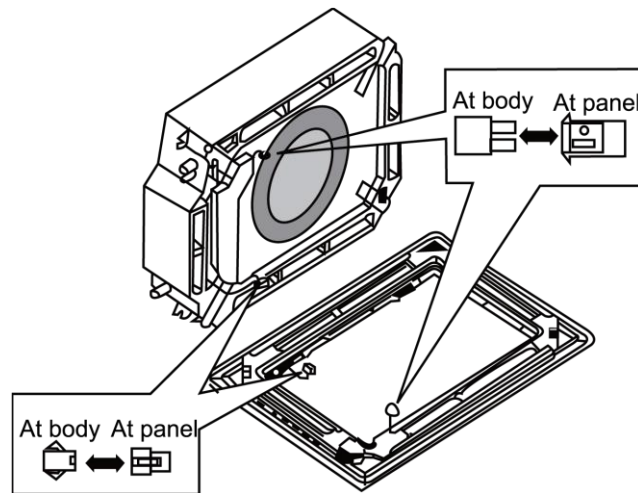

Fig. 4.4.3
- (3) Connect the decoration panel terminals (Female) to body terminals (male) as shown in fig. 4.4.3.